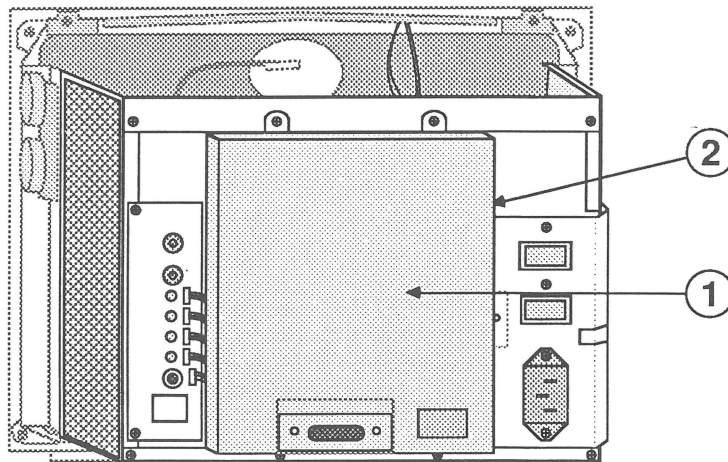

FIGURE 7
5. Turn the monitor so that the back is facing you and pull off the metal video board shield (Figure 7, #1).
6. Remove the screw that secures the black ground wires to the right side of the video color board assembly frame. (The screw is located under the shield in the area noted by Figure 7, #2.)